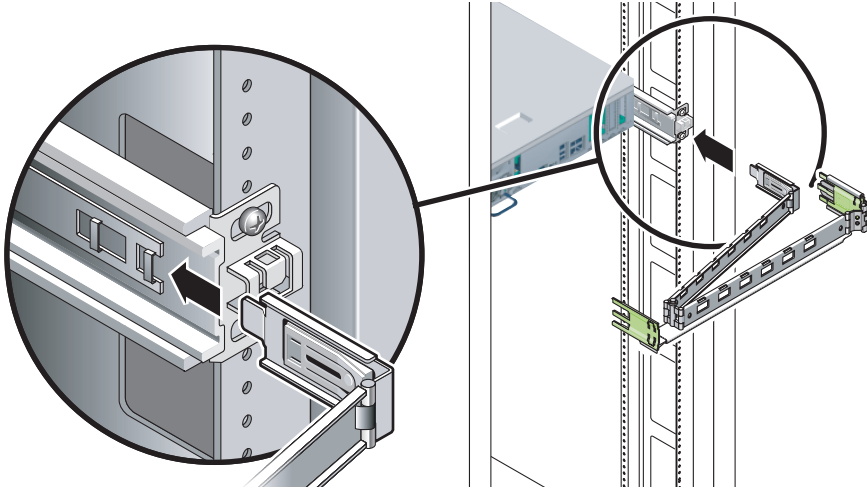

FIGURE 6-8 Installing the CMA
- a. **Insert the smaller extension into the clip located at the end of the mounting bracket (FIGURE 6-8).**